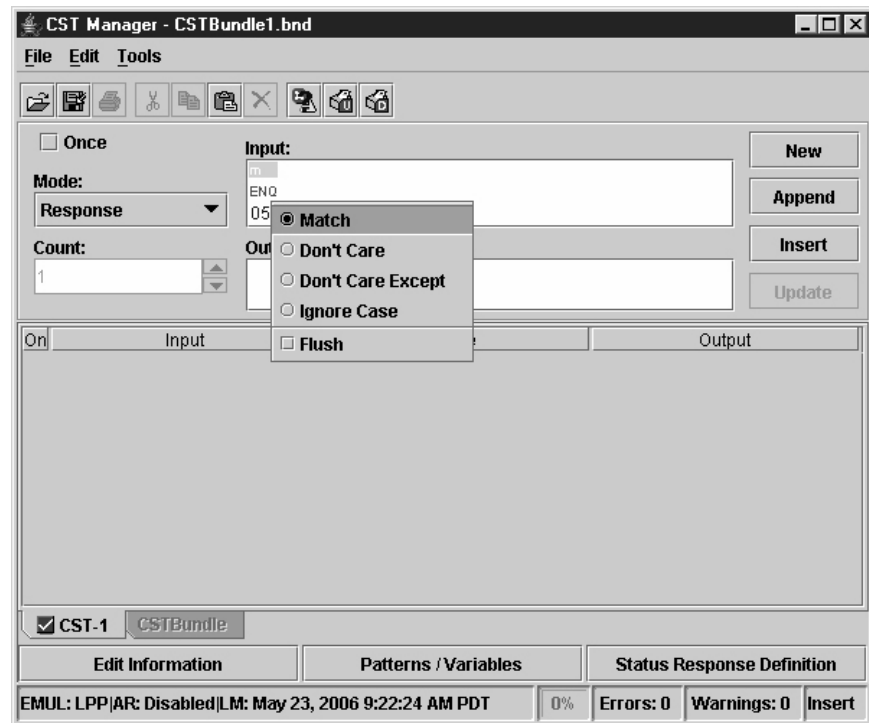

Figure 166. Response Mode Attributes
- Right-click your input string. A list of possible attributes displays. See Figure 166.